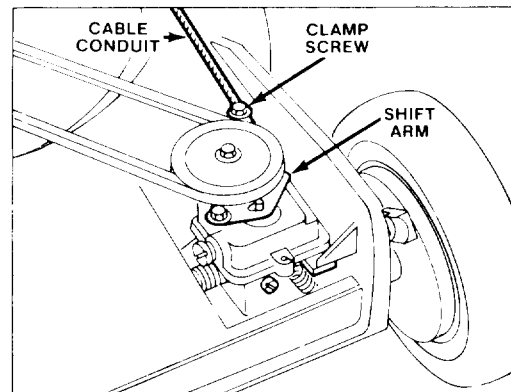

Figure 17
3. ADJUSTMENT (Fig. 17) — Loosen cable clamp screw until cable conduit slides. Move handle-mounted wheel drive control to DIS-ENGAGE detent. Move shift arm toward clamp screw and hold in place. Pull cable conduit to remove slack and tighten clamp screw.